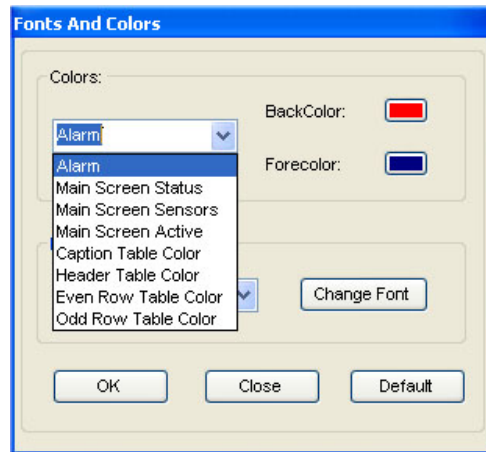

Figure 33: Drop down list for colors
2. Under *Colors*, select the screen element from the drop down list (Figure 33).